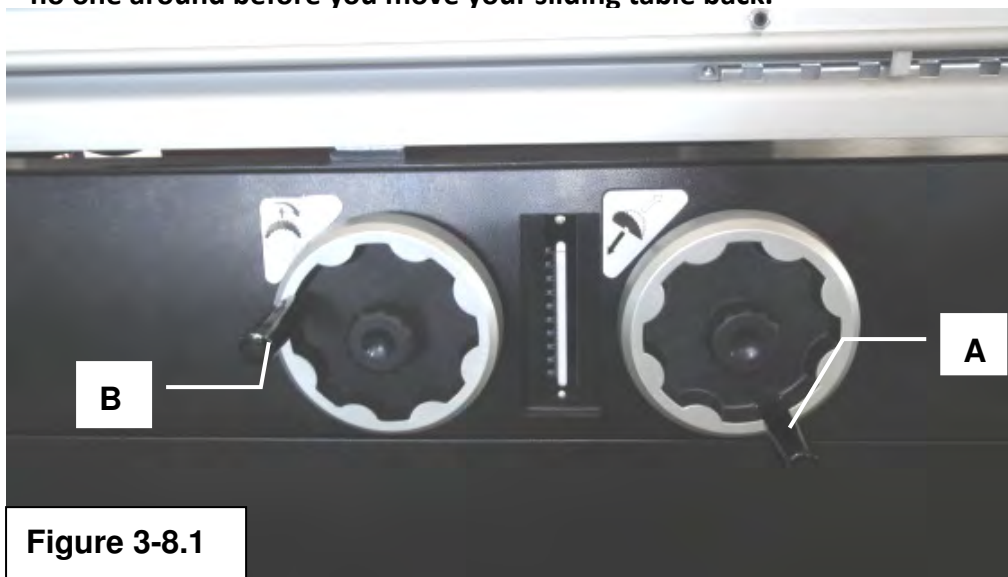

Figure 3-8.1
1. Set the saw unit in 0 degree by turning hand wheel **A** (Fig.3-8.1). , and lock knob.
2. Rise up the main saw blade by turning knob **B** (Fig. 3-8.1) clockwise
2. Set the scoring blade in 90 degree by turning the hand wheel A (Fig. 3-8.1)